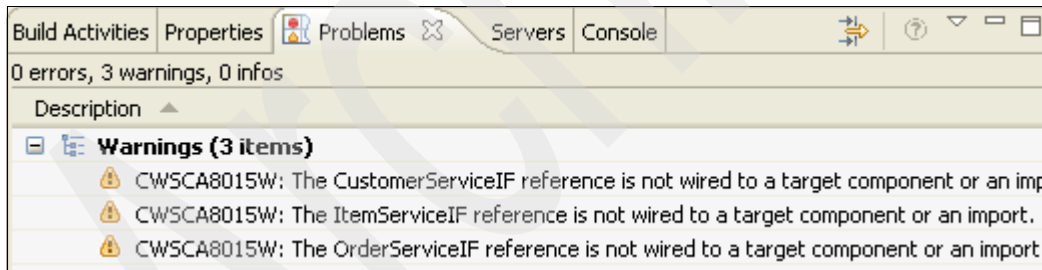

Figure 3-115 Problems view after adding warehouse rule to assembly diagram
15. Save the Project. The number of warnings in the Problems view decreases by one, and you now have three warnings as shown in Figure 3-115.